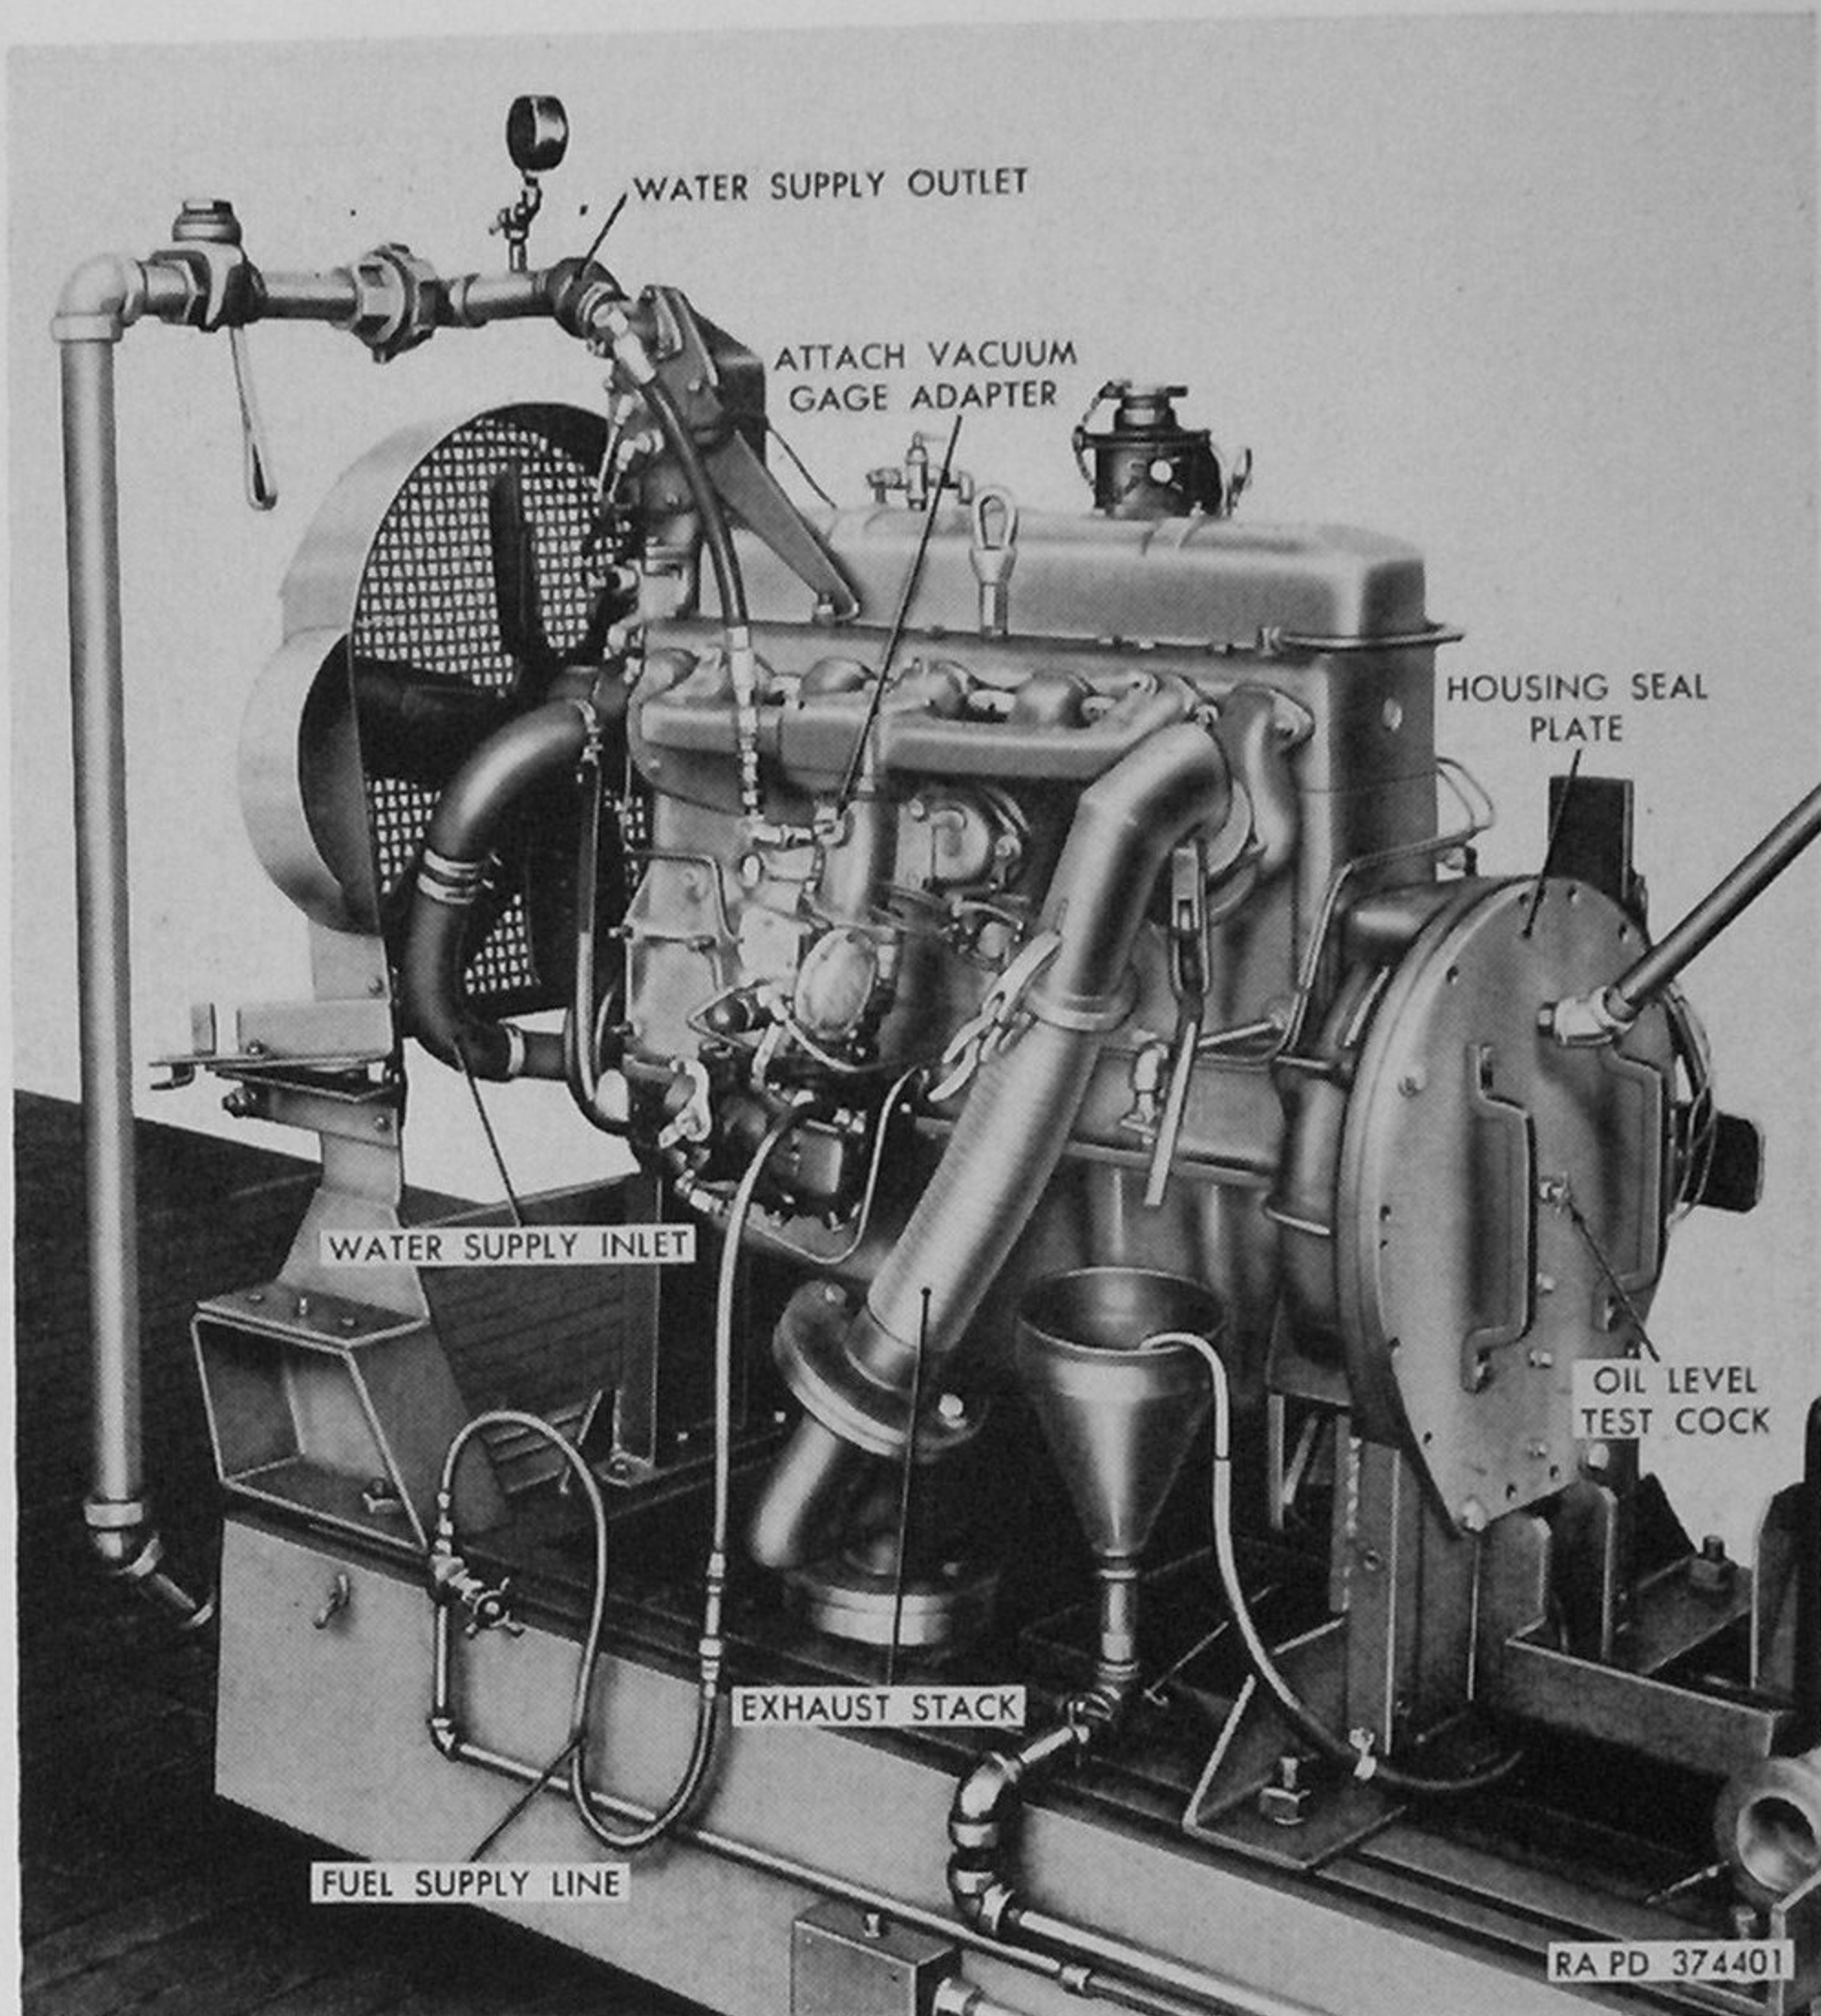

Figure 183. Engine assembly 8726920 in typical test stand (left side shown).
- (6) Remove pipe plug from rear of intake manifold on engine assembly 7411599 or 8329440, or from fuel vaporizer on engine assembly 8726920. Install vacuum gage connections into hole.
- (7) Connect generator connector on engine assembly 7411599 or 8726920 to test stand wiring connectors.
- (8) When preparing engine assembly 8726920 for run-in, cover rear opening of flywheel housing with temporary vented housing seal plate (fig. 183), then fill flywheel chamber with 4 quarts of engine oil (OE 10).
- (9) Connect water temperature gage and oil pressure gage sending units on engine assembly 8329440 or 8726920 to test stand wiring connectors.
- (1) Shut off fuel supply and permit engine to stop of its own accord.
- (2) Disconnect all test stand connections.
- (3) Drain water from engine by opening drain cock at rear left side of engine.
- (4) Drain oil from engine. Also drain oil filter by removing plug at bottom of filter shell. Install drain plugs after draining is completed.
- (5) On engine assembly 8726920 only, drain oil from flywheel housing, then remove temporary vented housing seal plate (fig. 183) from rear opening of flywheel housing.
- (6) Flush engine water passages with a mixture of 60 percent noncorrosive antifreeze compound (ethylene glycol type) and 40 percent water. Add to mixture 5 percent soluble corrosion preventive oil. Allow mixture to circulate throughout the engine water passages. Drain thoroughly, leaving drain cock open.
- (7) Clean exterior of engine thoroughly of all water and oil. Prepare engine for storage (par. 172).